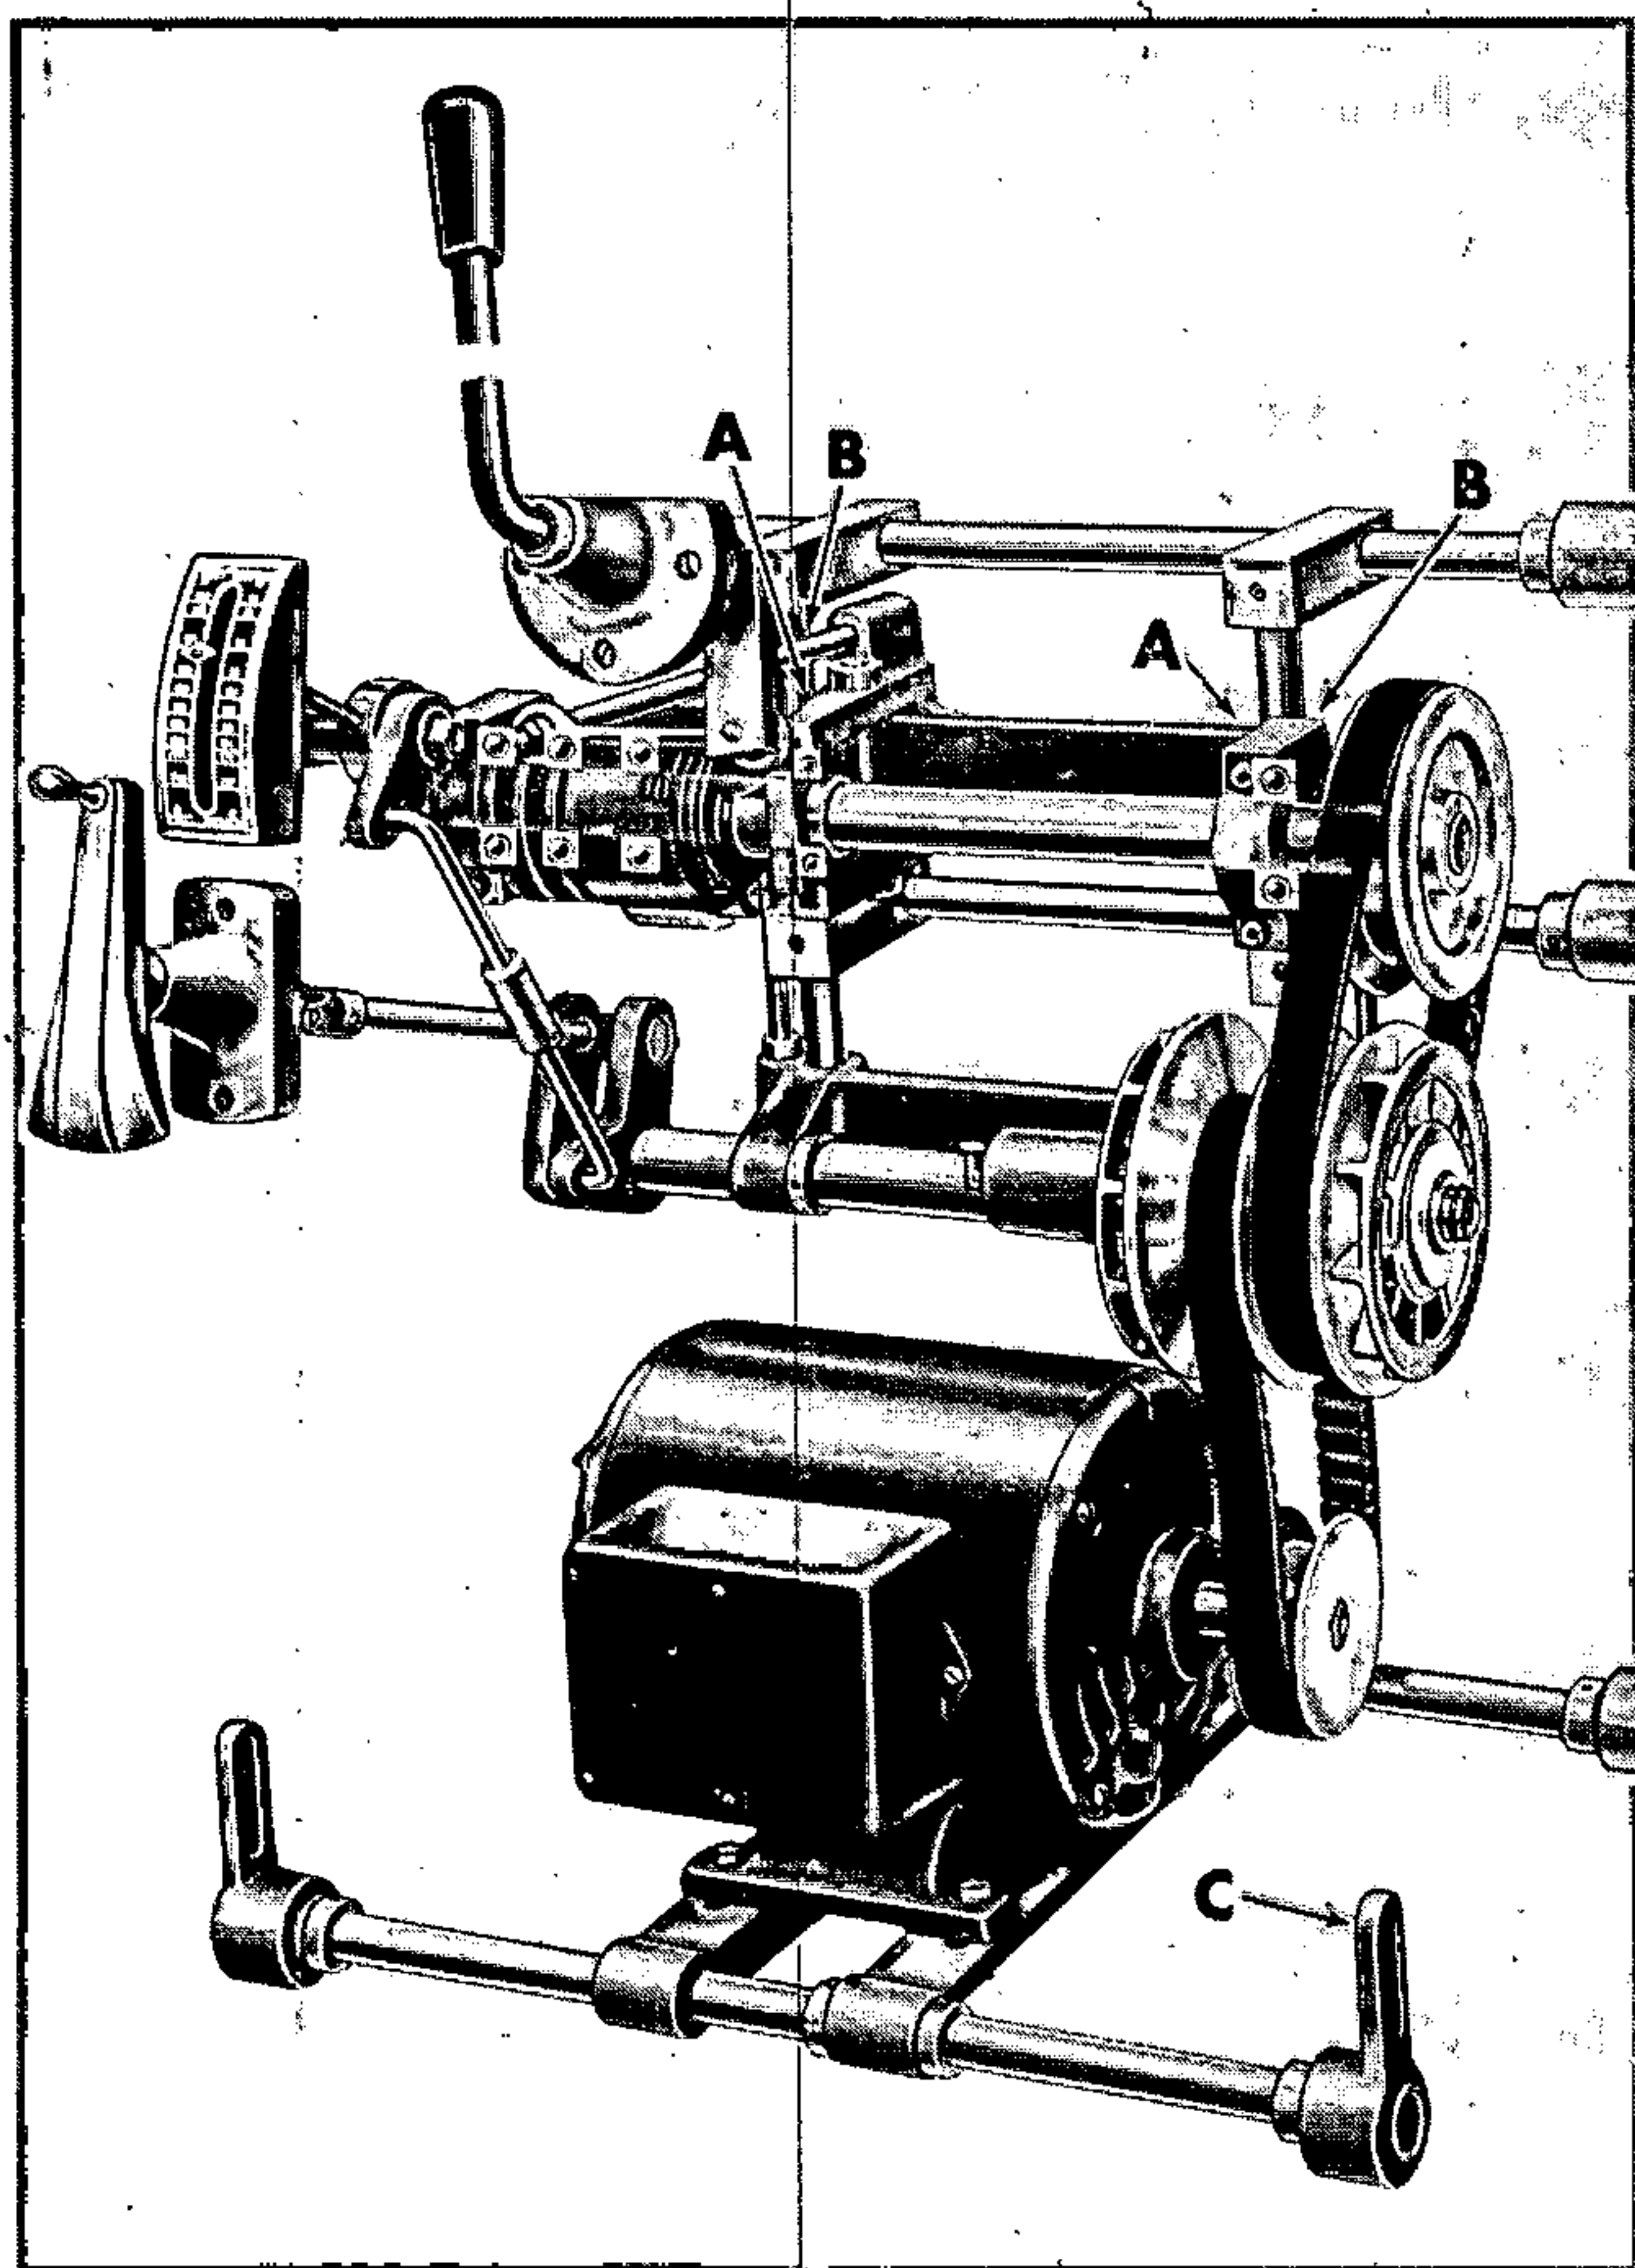

Figure 21 — Variable speed drive.
The spindle drive belts may be adjusted by loosening the two screws in the countershaft bracket (A, fig. 21) and turning the jack screws in the cross ties (B) accessible thru rear panel of cabinet.